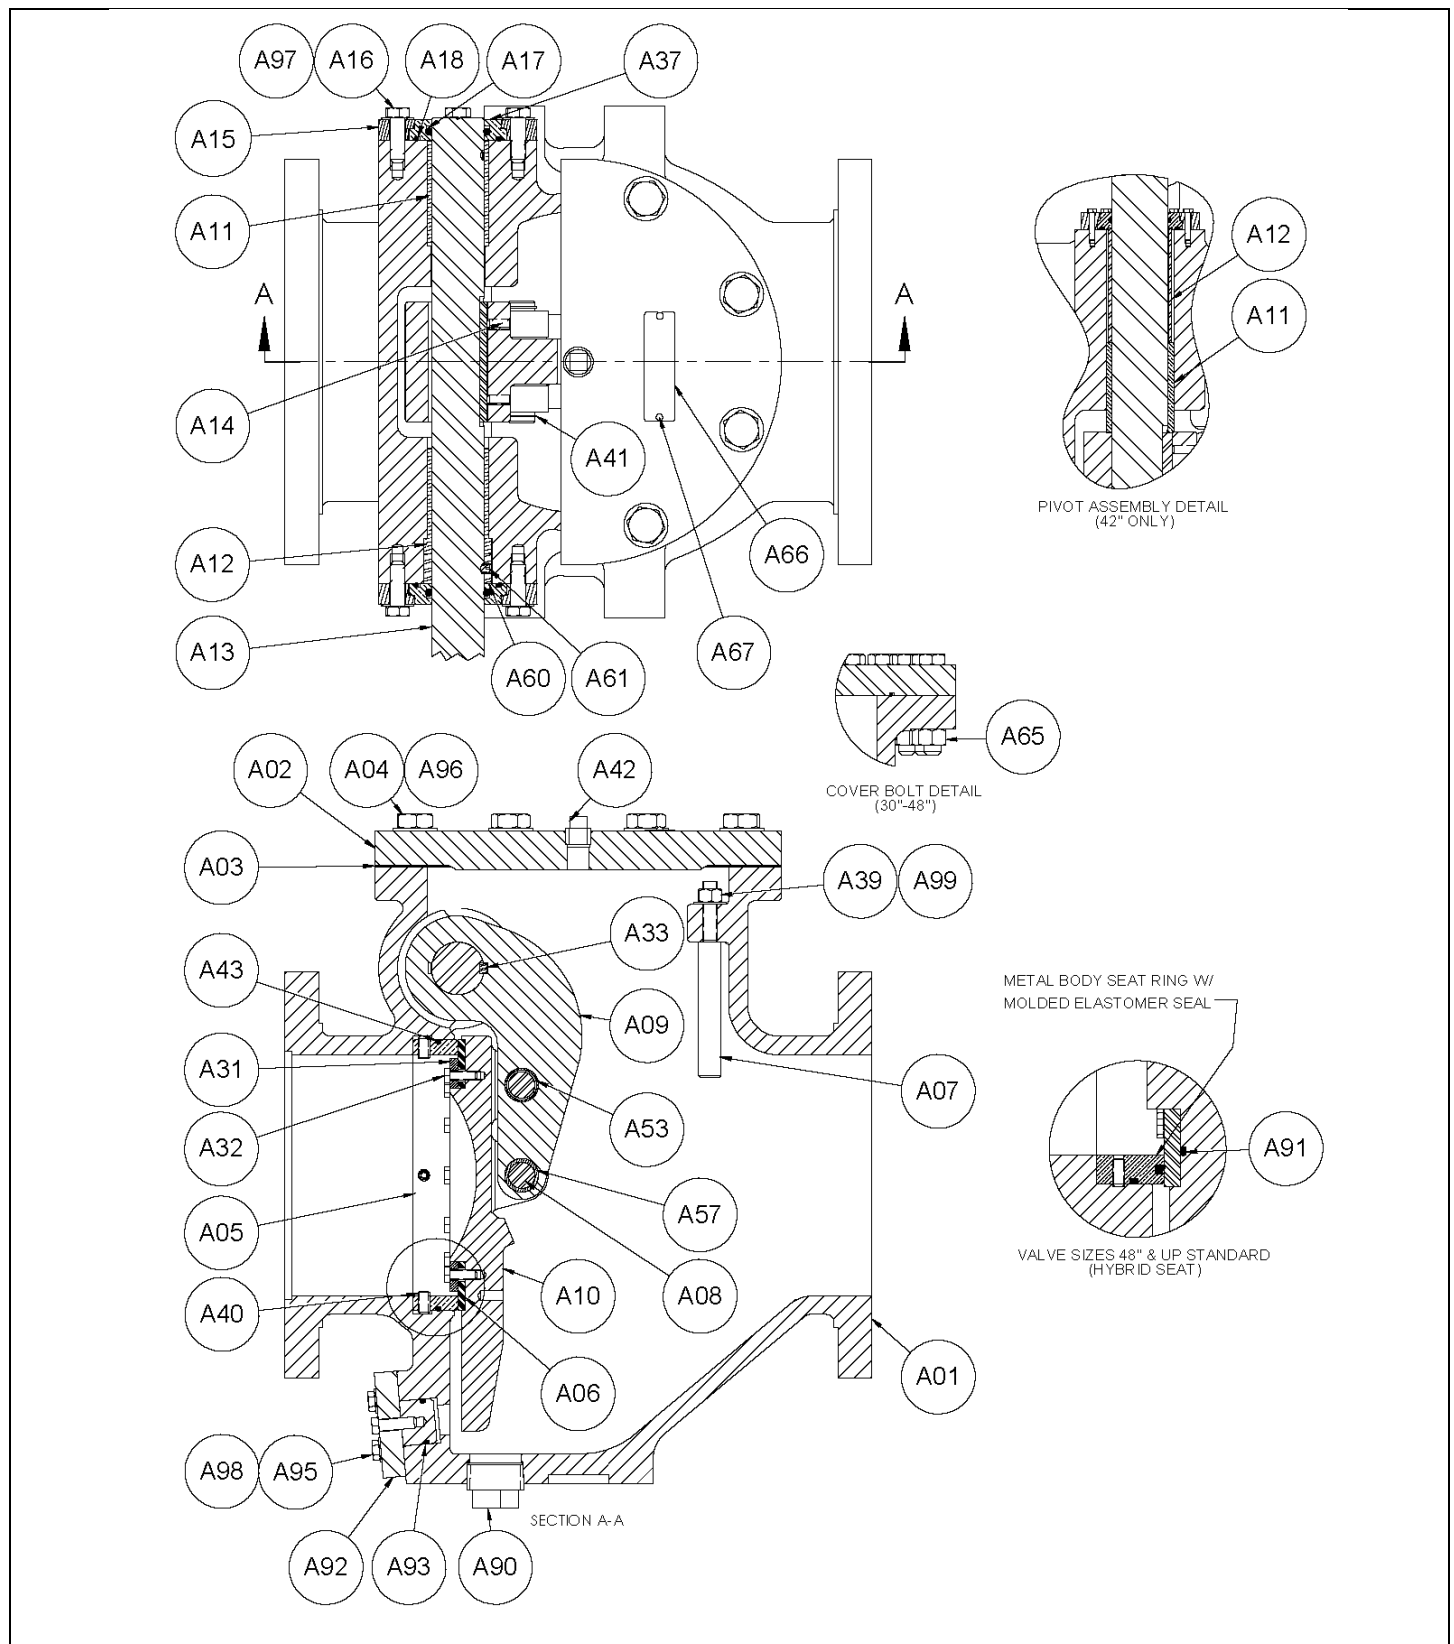

Figure 2 – Valve Assembly
- See figures 2 through 5 for part identification.
See Figures 2 through 5 for part identification.
Table 2 : Figure 2 Parts Identification